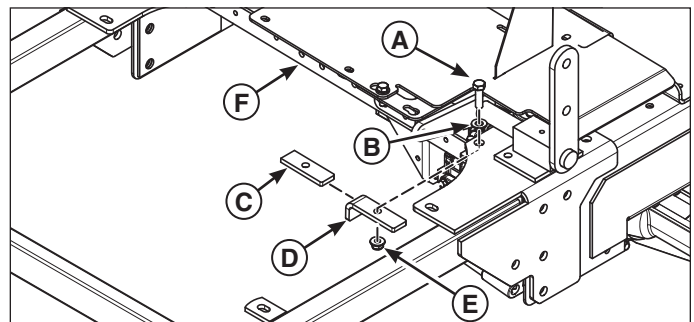

Figure 14. Install the New Deck Stop Plate
1. Loosen and remove the 3/8-16 X 1-1/4 bolt (A, Figure 14), 3/8 SAE washer (B) and 3/8-16 nylock flange nut (E) that secures the existing deck stop plate (C) to the unit.
2. Install the new deck stop plate (D) and loosely install using the 3/8-16 X 1-1/4 bolt and 3/8 SAE washer that were previously removed and a new 3/8-16 nylock flange nut.
3. Position the deck stop plate so that the tab contacts the transmission brace (F) and then tighten the hardware to secure the deck stop plate in place.